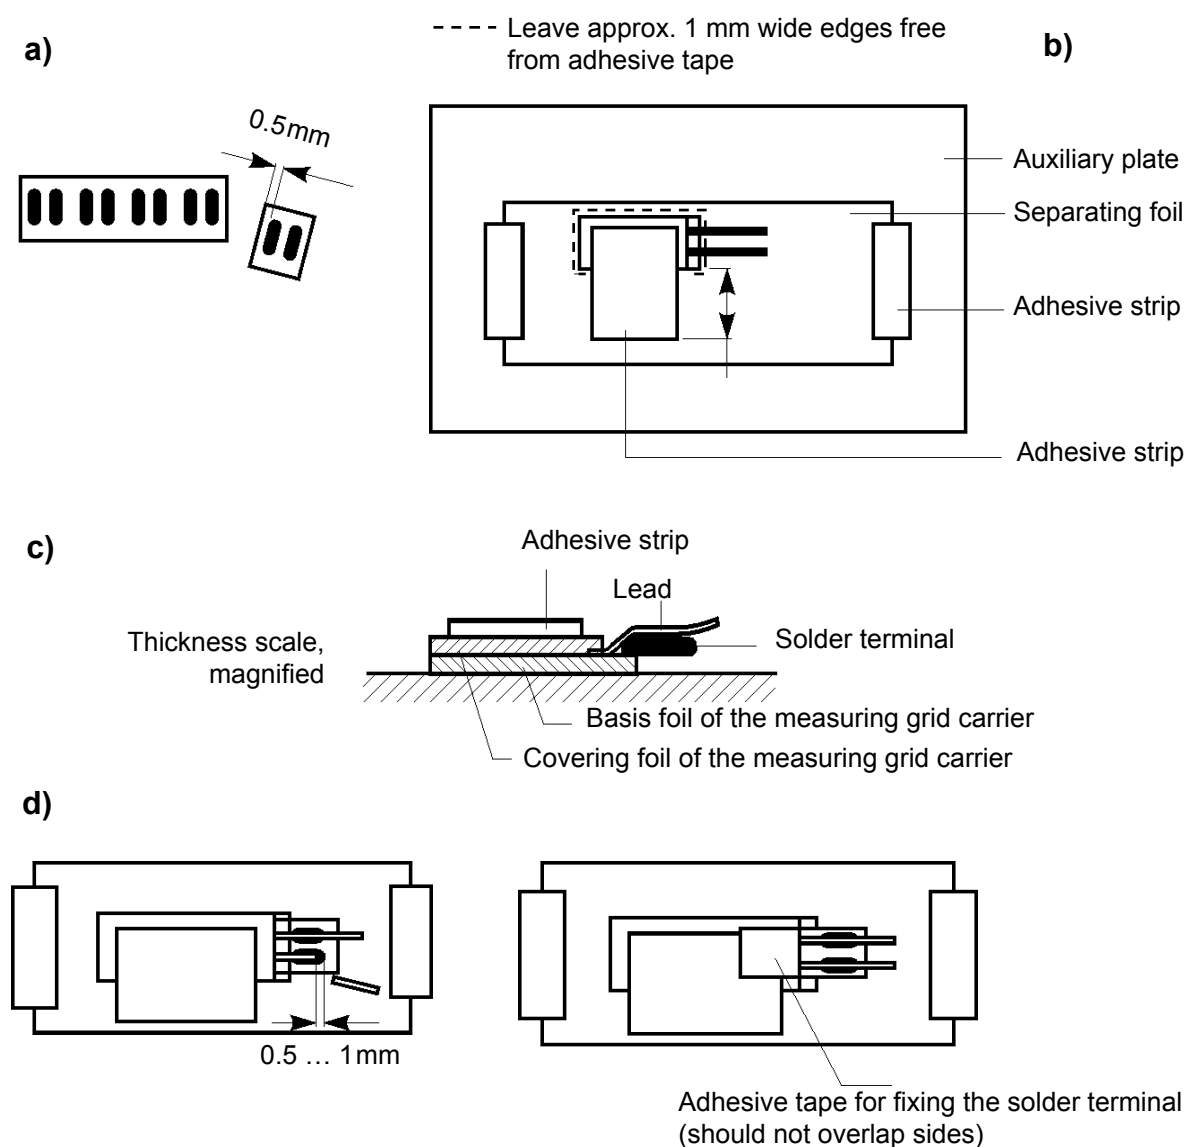

Fig. 2-6: Auxiliary technique 2 for SG installation
Cut a pair of solder terminals from a strip (the overlapping edge should remain at least 0.5 mm wide), Fig. 2-6, sketch a.
- Stick tape onto the top of the SG, overlapping the SG by approx. 10 -15 mm over one side. The other three sides of the SG must remain free! See Fig. 2-6, sketch. Stick the SG onto the separating foil with the overlapping section of the tape.
- Insert the solder terminals between the basis foil of the measuring grid carrier and connections, see Fig. 2-6, sketch c, and then shorten the connection leads.
- Join the SG and solder terminal with tape; cover the entire metal surface with tape, see Fig. 2-6, sketch d. Remove the prepared SG and separating foil from the auxiliary support and keep ready for installation.